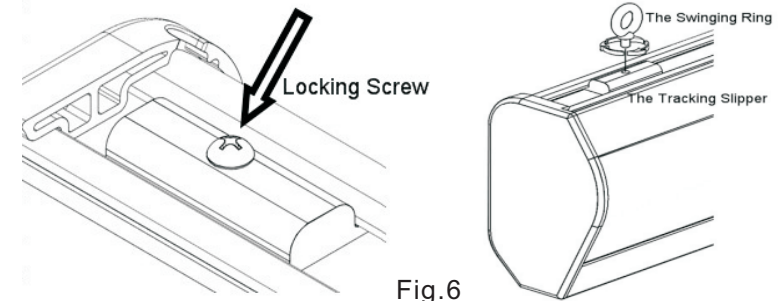

Fig.6
1. Take away the locking screw in the bottom of screen casing which is used for fixing the screen during transportation as Fig 6. Move the tracking slipper to a suitable place according to the installation distance and screw the swinging ring into the slipper.